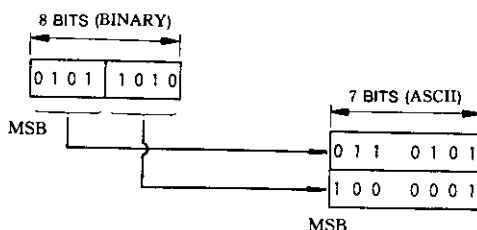

Fig. 8.2 Sample Binary-to-ASCII Conversion
- (1) Prepare a query message just as in RTU mode. Refer to Sections 7.1 to 7.10 as appropriate to the function code. It is not necessary to calculate the CRC-16 code.
- (2) Calculate the LRC code. Refer to Section 7.4.
- (3) Convert the data (8 bits) to two ASCII characters (7 bits). Divide the data, from the slave address to LRC at the end, into the high order 4 bits and the low order 4 bits. Then convert each into an ASCII character and arrange in the order of high order, then low order (Fig. 8.2).